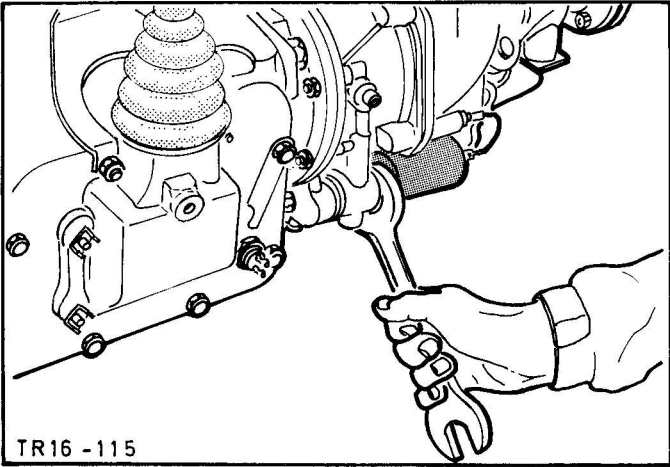

Fig.16. Remove solenoid.
4. Disconnect solenoid wiring and remove solenoid, Fig.16.